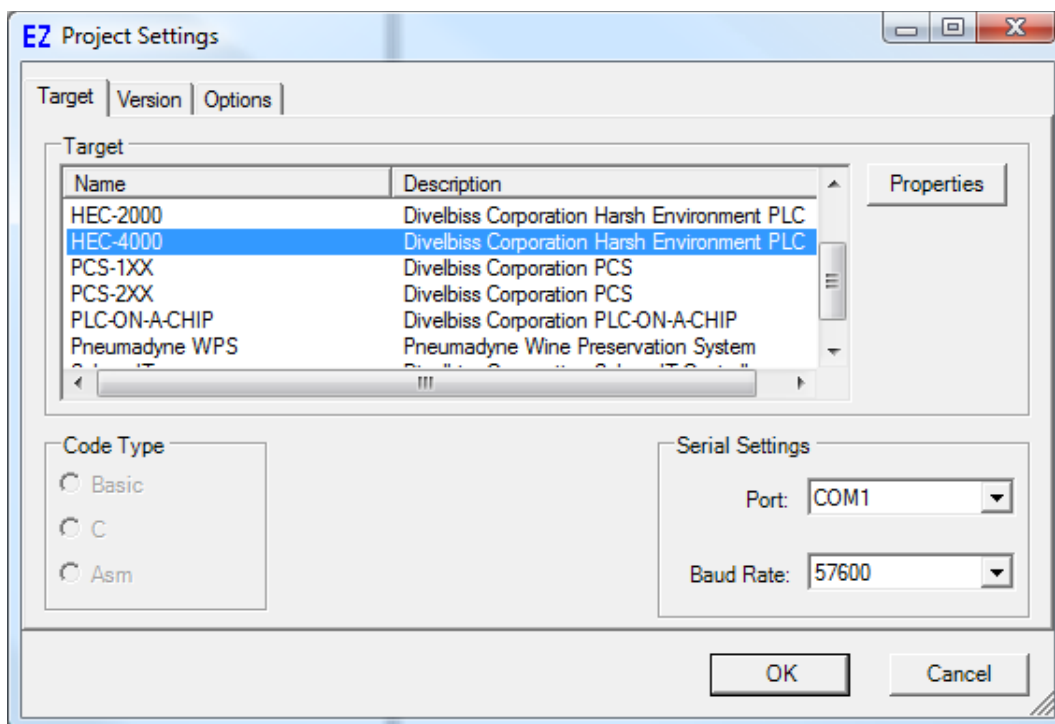

Figure 1.1 - Project Settings Window
1. In EZ LADDER, from the File Menu at the top, click **PROJECT** then **SETTINGS**. This will open the Project Settings Window. Select **HEC-4000** as the target from the choices. Refer to Figure 1.1.